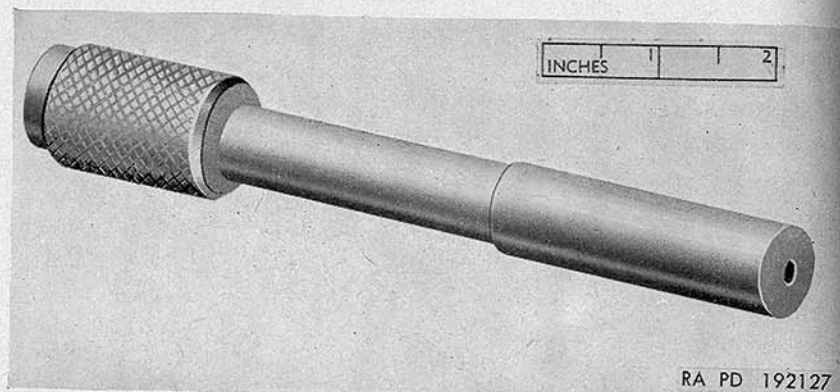
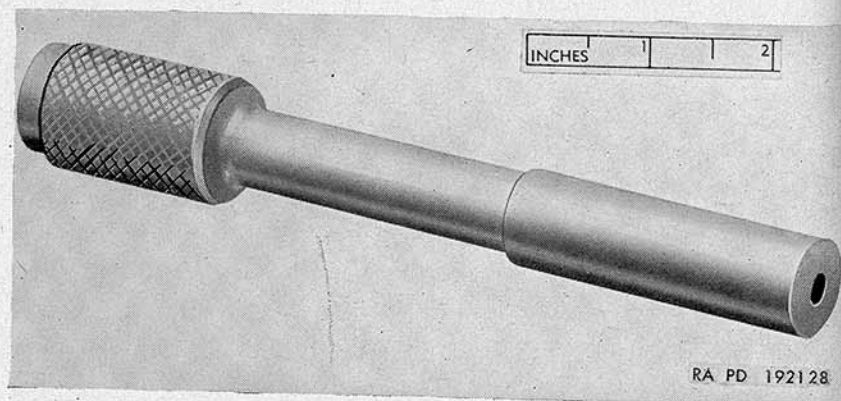
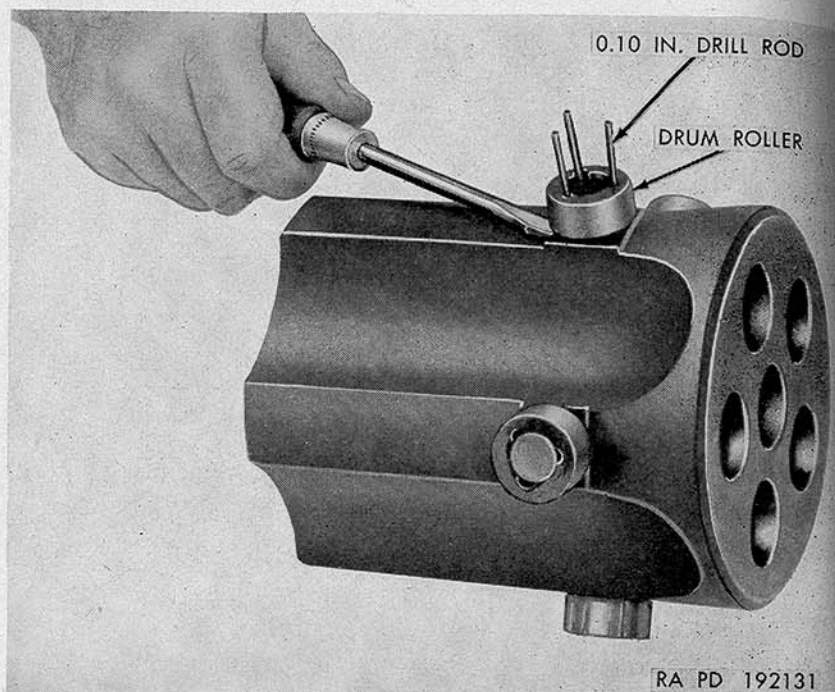

Figure 87. 20-mm drum seal knockout 7188571.
Figure 88. Cal. .60 drum seal knockout 7188570.
Figure 91. Removal of drum rollers.
b. During disassembly, if drum seals should jam, force them out with a 20-mm drum seal knockout 7188571 (fig. 87) for the T160, or a cal. .60 drum seal knockout 7188570 (fig. 88) for the T130.
c. To remove the drum rollers, perform the operations in (1) through (4) below.
- (1) Bevel one end of three pieces of drill rod approximately 1.5 inches long and 0.10 inch in diameter.
- (2) Tap the bevel ends of the drill rod into the three notches in the top of the drum roller. This forces the roller retainer inward (fig. 91).
- (3) Using a screw driver, pry upward on the roller to lift them from their roller trunnions (fig. 91).
- c. Install the three pieces of drill rod (par. 116) to compress the roller all the way on the roller trunnion (fig. 91).